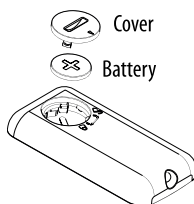

Fig. 1
- To replace the batteries, remove the battery cover by rotating it. Replace the battery paying attention to respect the right polarity as shown in figure 1.
- To clean the filter, remove the rear grille by pulling it outwards (fig. 1). Remove the dust filter which retains impurities in the air drawn in from the room, blow on it lightly then replace in the appliance.